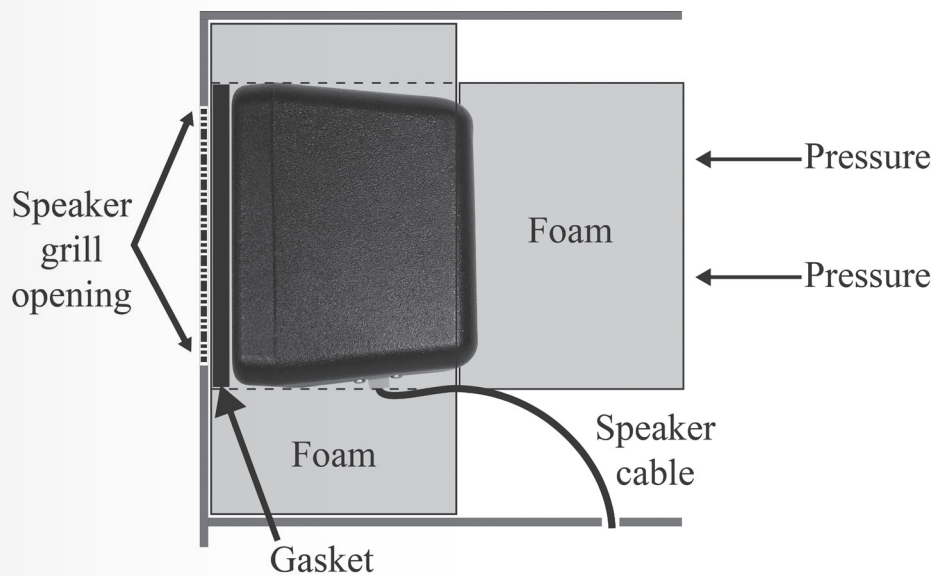

Figure 23. SP10 in speaker post, menu board or enclosure
2. Position the speaker inside the speaker post or menu board, with the gasket centered against the inside of the speaker grill as shown in **Figure 23**. The cable connector can be routed to either side. Align the opening in the gasket with the grill opening.
8. Place foam around the sides and back of the speaker as shown in **Figure 23**.